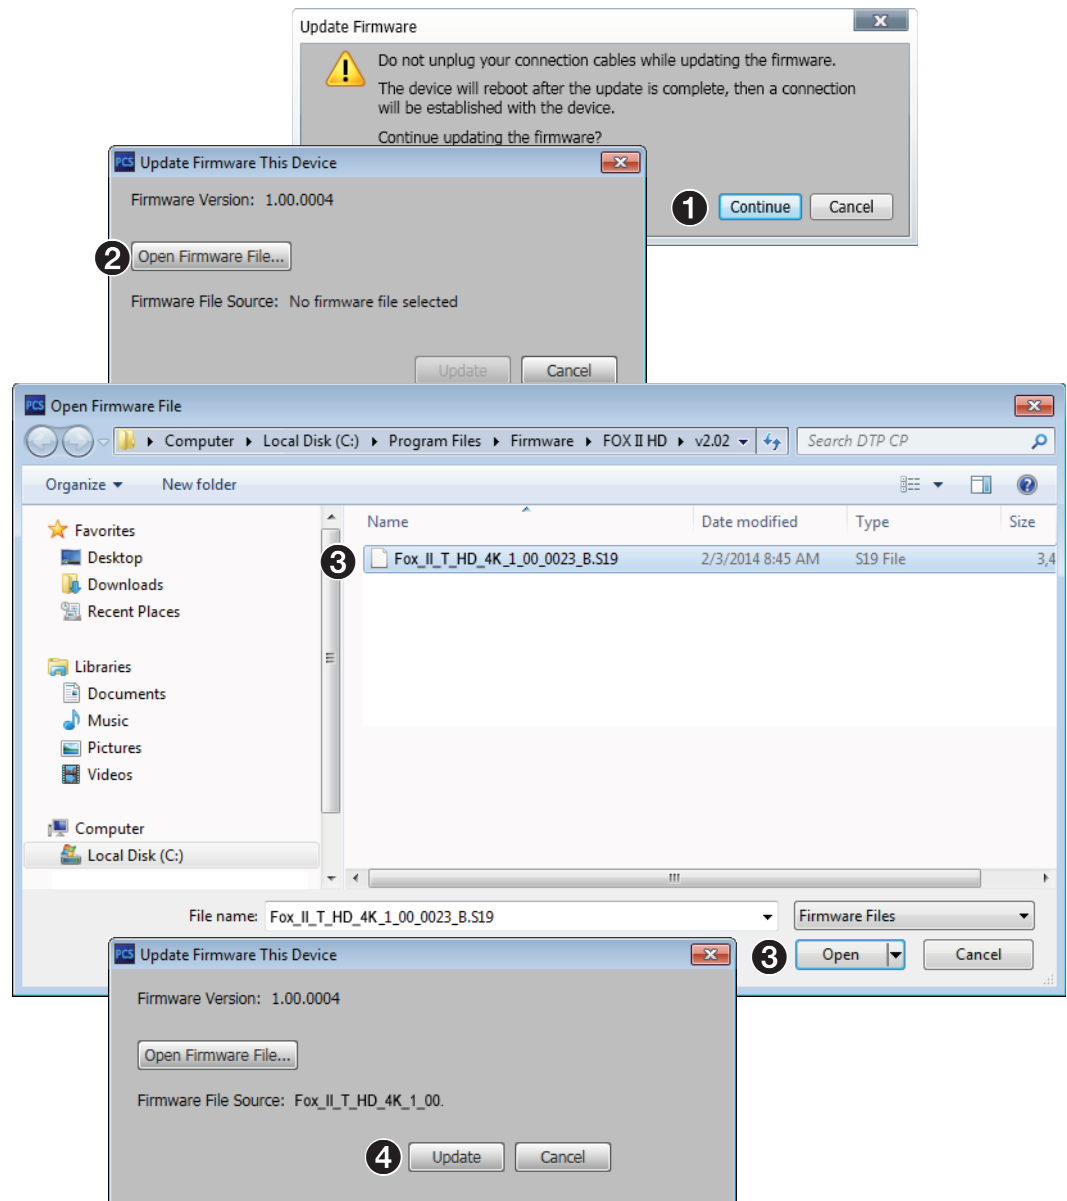

Figure 21. Updating Firmware
7. On the device tab, click  > **Update firmware**. The software asks you to confirm that you want to disconnect it from the unit (see figure 21).
8. Click **Continue** (❶). The Product Configuration Software disconnects itself from the unit and calls the Firmware Loader utility in the background. The **Update Firmware** dialog box appears.
9. Click **Open Firmware File** (❷). The **Open** dialog box opens.
10. Navigate to the folder where you saved the firmware upgrade file. Select the file and click **Open** (❹). The **Update Firmware This Device** dialog box returns to the top.
11. Click **Update** (see figure 21, ④ on the previous page).